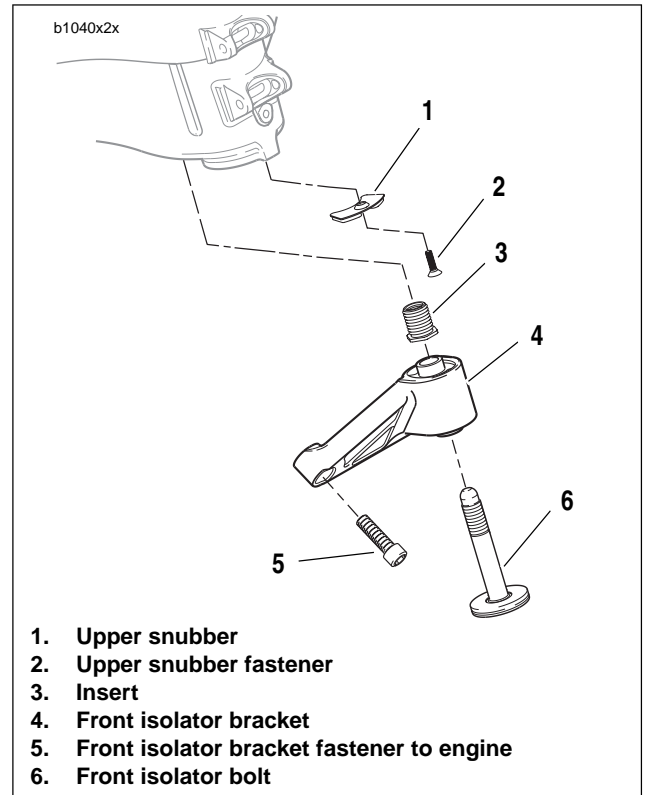

Figure 2-86. Front Isolator
3. See Figure 2-86. Remove front isolator bolt (6).
4. Remove front isolator mount fasteners (5).
5. Remove front isolator bracket (4).
6. Remove upper snubber fastener (2) and remove upper snubber (1).
See Figure 2-86. If the threaded insert (3) is damaged and needs to be replaced, install new insert with LOCTITE 272 and tighten to 49-51 ft-lbs (66.4-69.1 Nm).
7. See Figure 2-86. Install upper snubber (1) tightening snubber fastener (2) to 12-36 in-lbs (1-4 Nm).
9. See Figure 2-86. Use LOCTITE 272 on front isolator bracket (4) and install. Tightening fastener (5) to 49-51 ft-lbs (66-69 Nm).